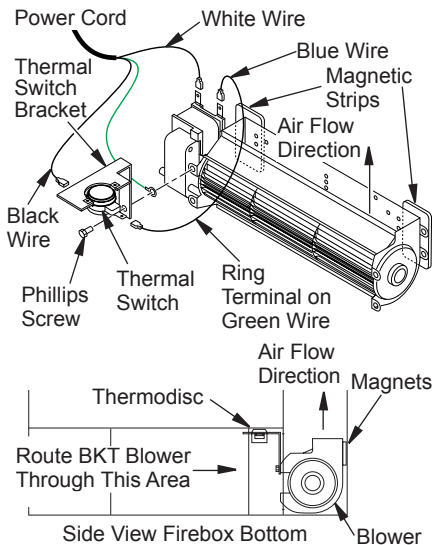

Figure 29 - Blower Model BKT
1. Place green ground wire with ring terminal between bottom hole on thermal switch bracket and top ear hole on blower assembly. Insert phillips screw into all three pieces and tighten securely (see Figure 29).
3. Place blower against lower rear wall of firebox outer wrapper with exhaust port directed upward and thermodisc positioned up near fireplace bottom. Thermodisc must be oriented near fireplace bottom as shown in Figure 29 in order to sense temperature and properly operate. Blower will be held in position against back wall by magnets incorporated onto blower housing (see Figure 29).